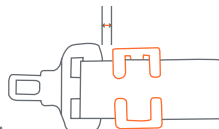

Fig. 48-1
- Secure the shoulder belt to the lap belt by installing the locking clip 1/2 inch from the buckle as shown in (Fig. 48-1).